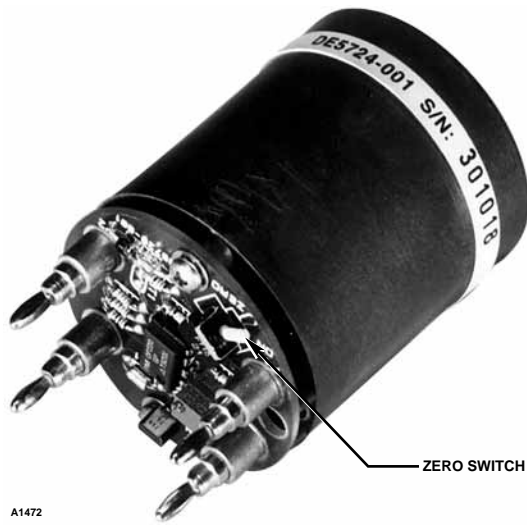

Figure 16—Electrochemical O₂ Sensor Cell
New system commissioning/Sensor replacement is a two-step procedure requiring both zero and span adjustment. It typically requires (2) people to complete as the calibration command is initiated at the R8471 controller faceplate, and the C7065E threaded housing cover in the field must be removed to actuate the sensor's on-board zero switch. See Figure 16. After completion of this procedure, all subsequent calibrations are designated as routine calibrations and do not require cover removal or actuation of the sensor's on-board zero switch.